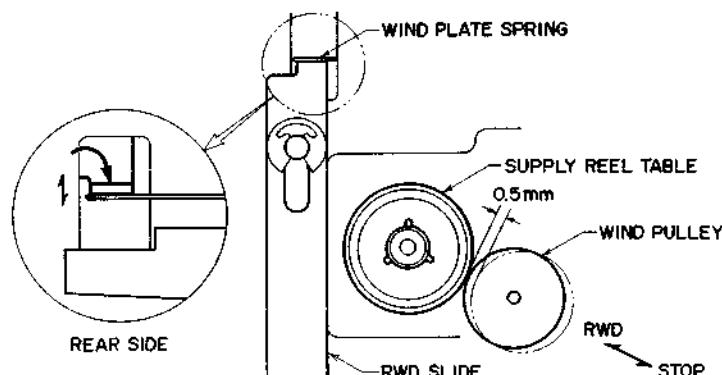

Fig. 2
In case of damage and necessary disassembly, parts of assembly in the order shown in figure 2 must be removed.
2. REWIND SLIDE ADJUSTMENT (Refer to Fig. 2)